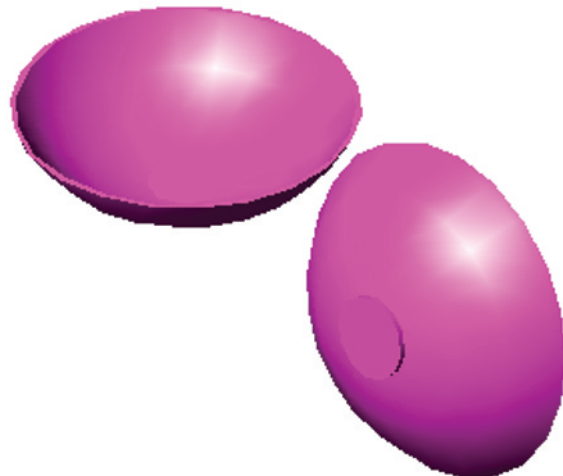

Fig. 15.19 Second example –
Second example – Mirror 3D (Fig. 15.19)
4. *Click* **Visual Styles/Conceptual**. The result is shown in Fig. 15.19.